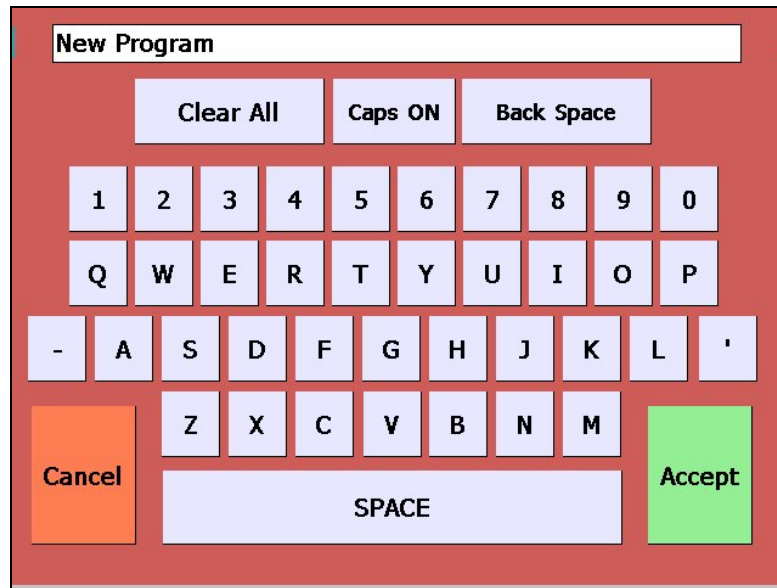
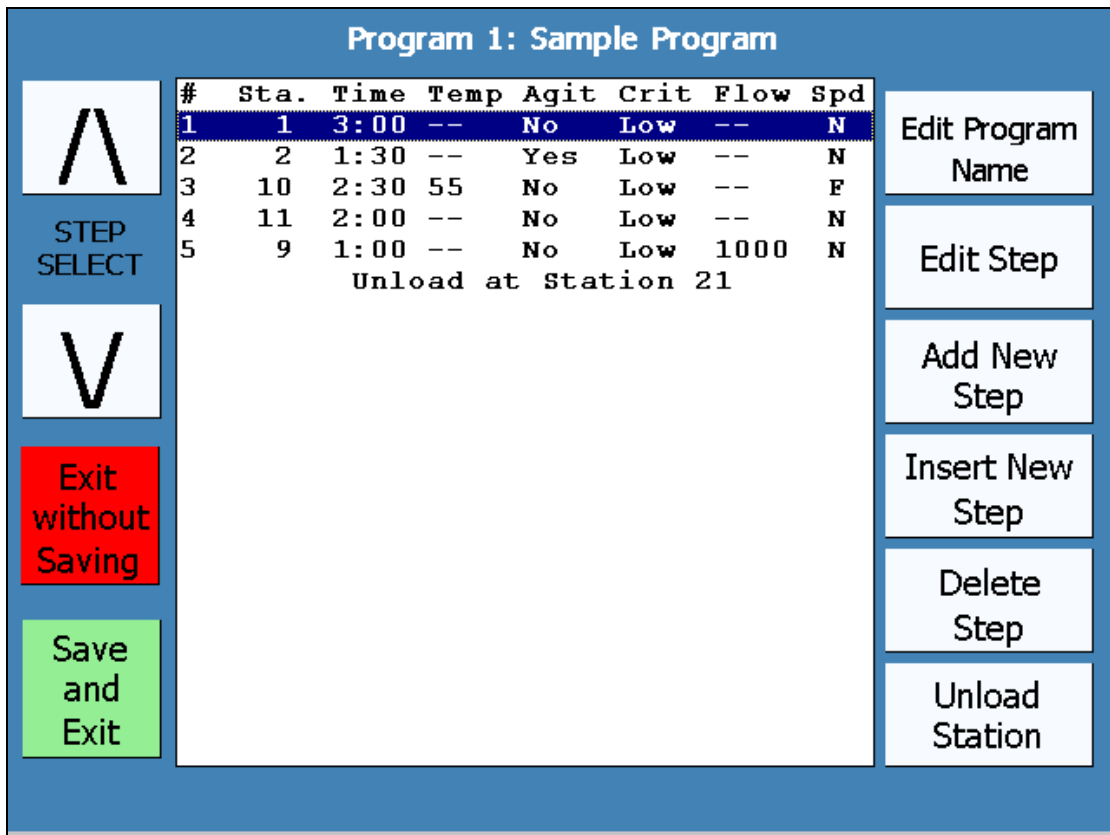

Figure 6-2: Onscreen Keypad
Figure 6-7: Program Steps Summary Screen
4. To name the program, select **Edit Program Name** as shown in Figure 6-7: Program Steps Summary Screen. An onscreen keypad as shown in Figure 6-2 will appear.
17. Once all desired steps have been programmed, select . A summary screen similar to the screen shown in Figure 6-7 will be displayed.
4. To rename the program, select  from the Program Steps Summary Screen. A keypad as shown in Figure 6-2 will appear onscreen. Delete the current name of the
6. A keypad as shown in Figure 6-2 will automatically be displayed. Delete the name of the original program by selecting  and name the duplicated program using the  onscreen keypad. After entering the desired name, select  to save.